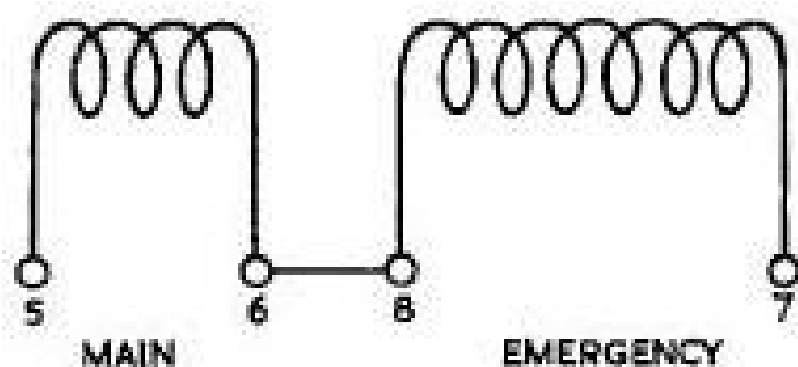

Fig. 3. Diagram of internal connections
4. Two terminal brackets and a double bracket, forming a link, are mounted on a moulded terminal block. The main terminals (5 and 6) have $\frac{1}{2}$ in. B.S.F. hex/hd. screws for securing external cables, while the emergency terminals (7 and 8) have 2 B.A. hex/hd. screws. The common bracket connects terminals 6 and 8 (fig. 3).